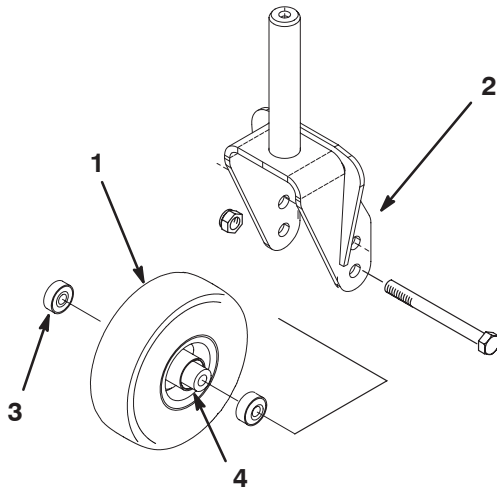

Figure 29
1. Remove the locknut from the capscrew holding the castor wheel assembly between the castor fork (Fig. 29). Grasp the castor wheel and slide the capscrew out of the fork or pivot arm.
2. Remove the bearing from the wheel hub and allow the bearing spacer to fall out (Fig. 29). Remove the bearing from the opposite side of the wheel hub.